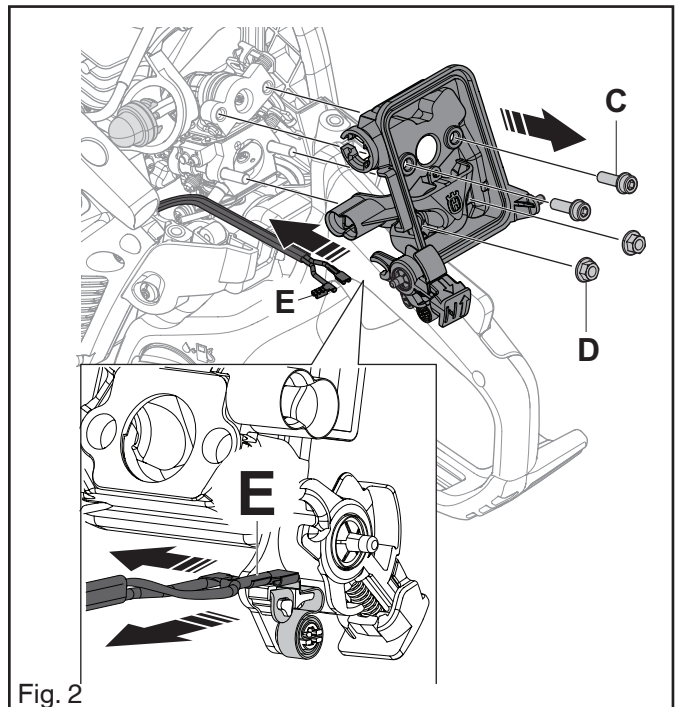

Fig. 2
4. Remove the screws (C). See Figure 2.
5. Remove the nuts (D). See Figure 2.
6. Carefully pull out the air filter holder (B). See Figure 2.
7. Detach the cable (E). See Figure 2.
2. Fit the cable (E). See call-out in Figure 2.
3. Carefully attach the air filter holder (B) to the carburettor. Make sure the hoses that attaches to the primer bulb are not pinched. See Figure 2.
4. Tighten the nuts (D) and the screws (C). See Figure 2.